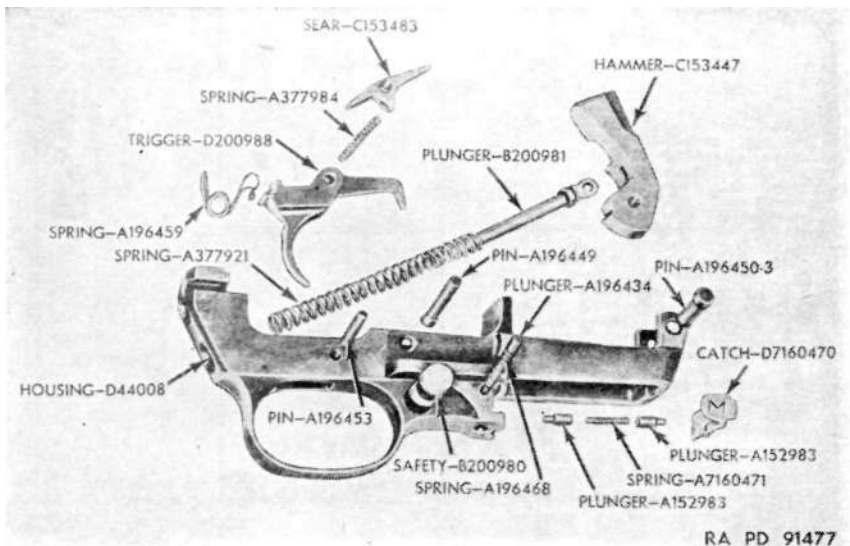
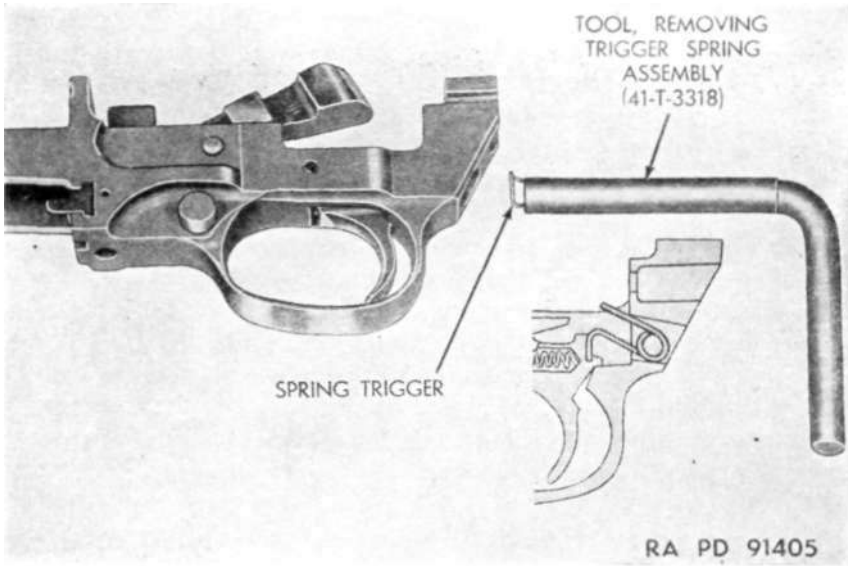

Figure 20. Trigger housing group — disassembled.
Figure 21. Installing trigger spring.
a. REMOVING TRIGGER SPRING (fig. 20). (1) Insert the tube portion of the trigger spring removing tool (fig. 21) in the recess in the rear of the trigger housing containing the trigger spring, compress, and retain the trigger spring within the tube of the tool.
(2) Turn the handle of the tool one-quarter turn counterclockwise.
(3) Withdraw the tool and spring while pushing the handle of the tool slightly to the right.